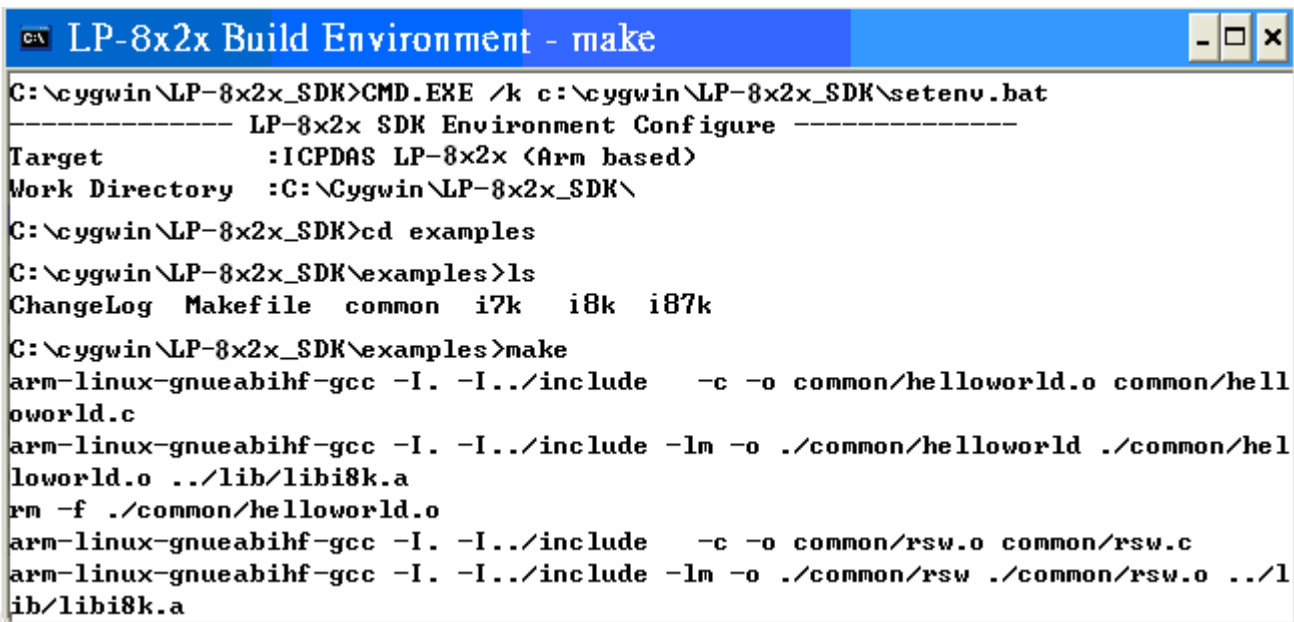

Fig. 2-18
9. Type “**make**”. A Command Prompt window will then be displayed that allows applications for the LP-8x21 to be compiled. Refer to Fig. 2-18.